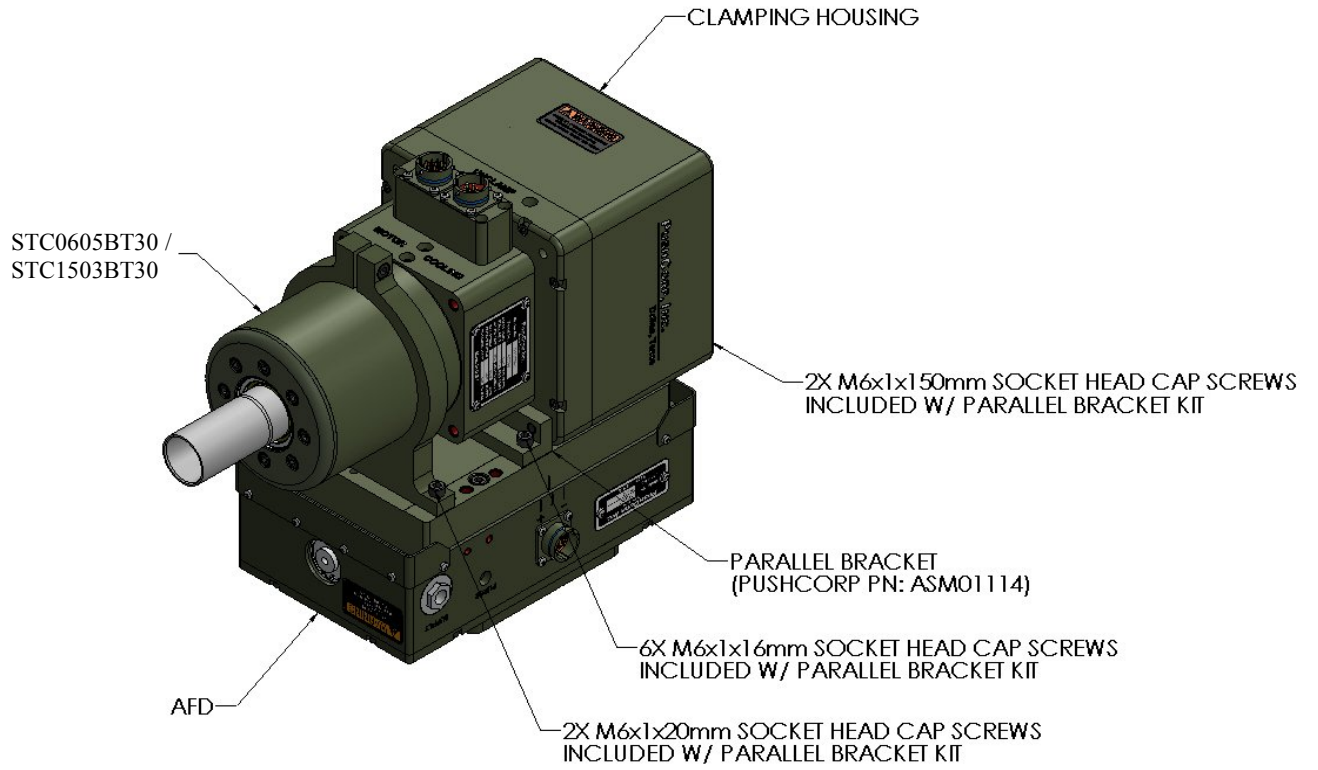

Figure 1. Spindle Motor Parallel-Axis Configuration
The Parallel-Axis configuration is shown in Figure 1, where the motor attaches to the AFD Carriage with a Parallel Bracket. The Parallel Bracket is positioned on the Carriage and attached using the four (4) supplied M6x1x20mm Socket Head Cap Screws. The motor is then attached to the Parallel Bracket, as shown, with two (2) M6x1x20mm Socket Head Cap Screws into the front of the Motor Housing. Two (2) M6x1 Socket Head Cap Screws pass through the Clamping Housing/Mounting Plate (length is dependent on motor SMxxxx = 25mm, STCxxxx-BT30 = 145mm). The fasteners must be tightened to the torque specified in Section 4.0.